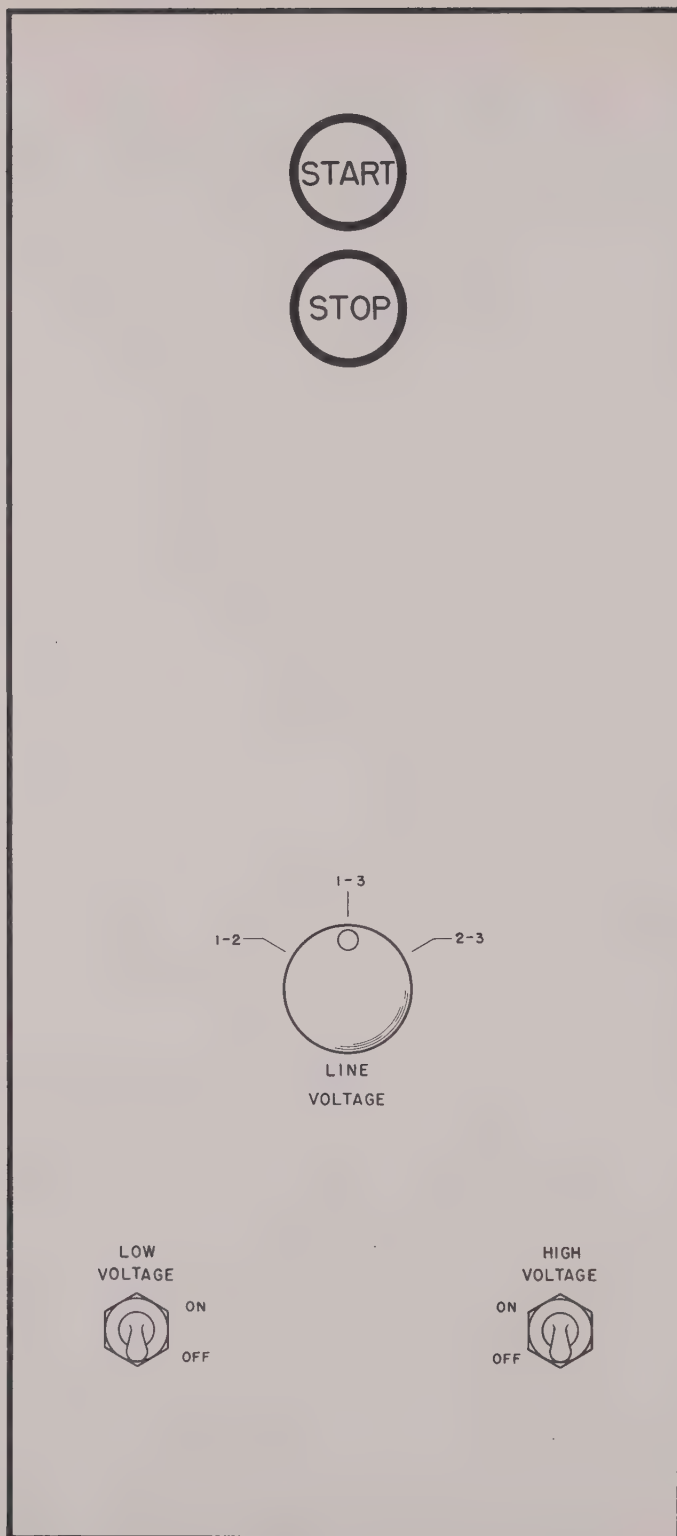

Figure 26. Rectifier Power Unit Model 36D, diagram of control panel
20. Rectifier Controls and Instruments and their Use (Fig. 26)